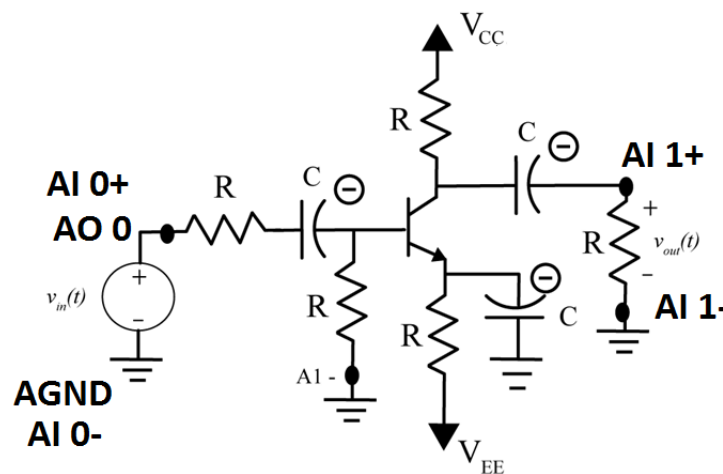

Figure 4: Common Emitter Amplifier
- 5) Now finish building the circuit as shown in Figure 4. Verify that the polarity is correct on all of the capacitors. In addition, confirm that the remaining items are all connected to ground and not any of the voltage sources.